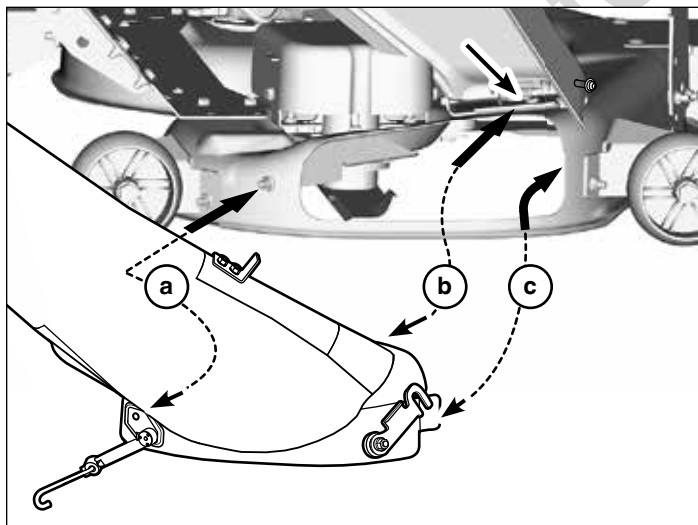

Figure 13
2. Attach the left side of bagging boot onto the carriage bolt assembly (a, Figure 13) installed on the deck.